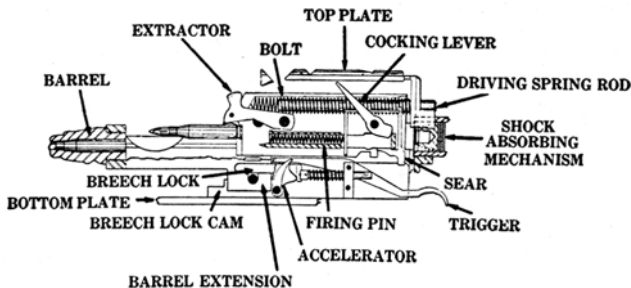

FIGURE 14.— Relation of parts in backward position.
■34. ACTION OF DRIVING SPRING (fig. 14).—When the rear of the bolt strikes the buffer plate, its remaining force is absorbed in the coiled spiral spring and the buffer disks. The force of the rearward motion of the bolt being absorbed by the buffer mechanism, the driving spring then forces the bolt forward.
■36. RELEASE OF RECOILING PARTS (fig. 14) —AS the bolt goes forward its bottom projections strike the accelerator and turn it forward. This unlocks the barrel extension from the lock frame and releases the barrel plunger spring. When the accelerator has